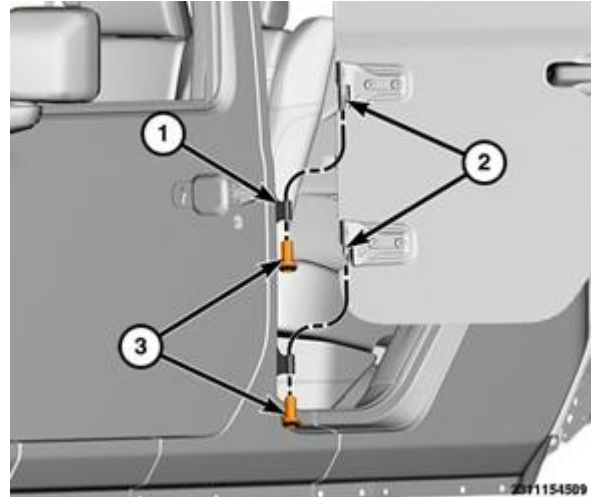

Figure 22 – Hinge Pin Nuts
39. Remove the nuts (3) and lift the door up off hinges (1) and remove (Figure 22).